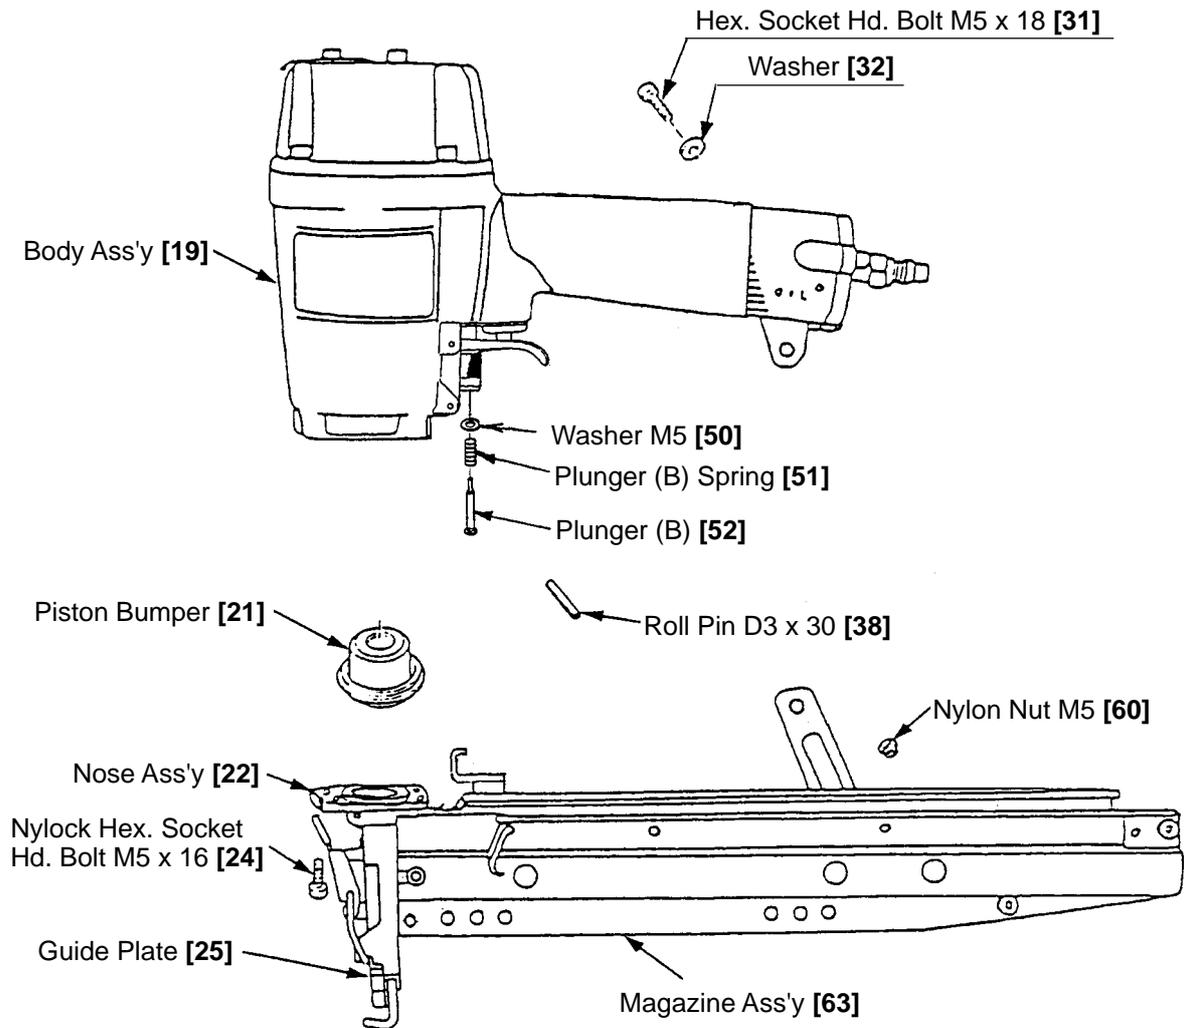

Fig. 10
(a) Disassembly (Refer to Fig. 10.)
- As illustrated in Fig. 10, loosen the four Hex. Socket Hd. Bolts M5 x 20 [1], and remove the Exhaust Cover [3]. The Piston [9] can then be taken out.